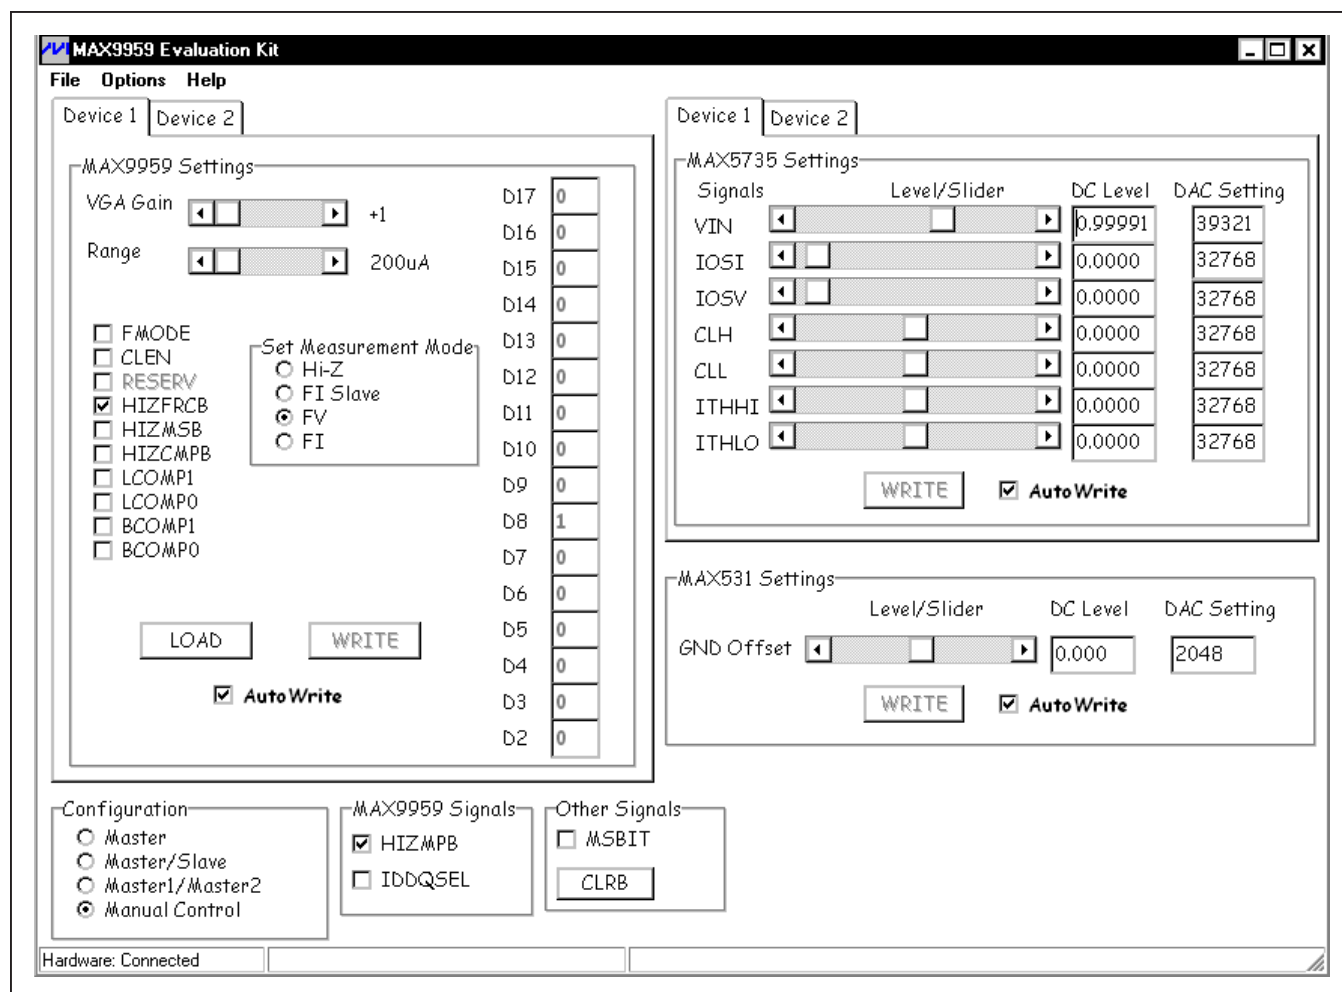

Figure 2. MAX9959 EV Kit Quick Start Settings
- 10) Check that the output voltage at DUT_NODE_M (P8) is close to +1V. Figure 2 shows the MAX9959 EV kit quick start settings.